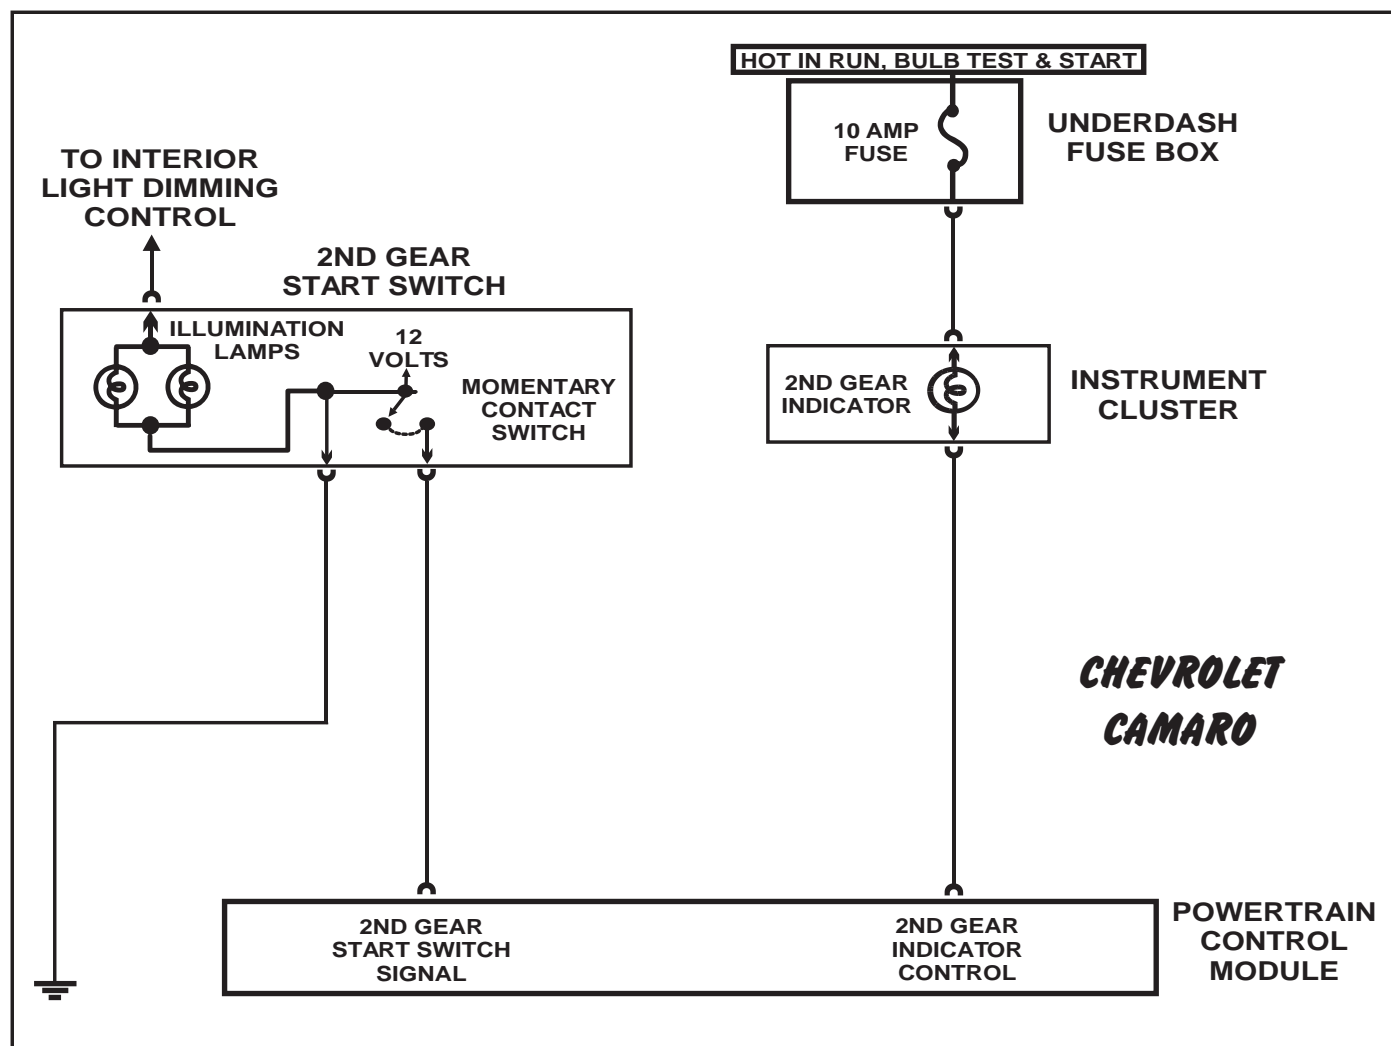

Figure 152
- Check the ground circuit with the ignition "ON", the DVOM should display 0.3 volts or less, if the ground circuit is carrying more voltage than 0.3, it can be cut and reattached to a known good ground, (Refer to Figures 152 and 153).
- The circuit that supplies battery voltage to the switch may be open or shorted to ground, (Refer to Figures 152 and 153).
- This signal can be imitated by attaching a jumper lead to the 2nd gear switch circuit and momentarily providing 12 volts to the 2nd gear switch signal wire which goes to the PCM, (Refer to Figures 152 and 153).
- It is the PCM that supplies the 12 volts on the 2nd Gear Switch Signal Circuit, isolate the wire and check at the PCM for voltage, if none is present, replace the PCM. (Refer to Figures 152 and 153). If there are 12 volts at the PCM, but not on the switch end of the wire with the switch disconnected, repair the signal wire.
- The difference between Figures 152 and 153 is where the Second Gear Start Switch Indicator Lamp is located. Chevy Camaro has the lamp located in the instrument Cluster and the Pontiac Firebird has it located in the 2nd Gear Start Switch.